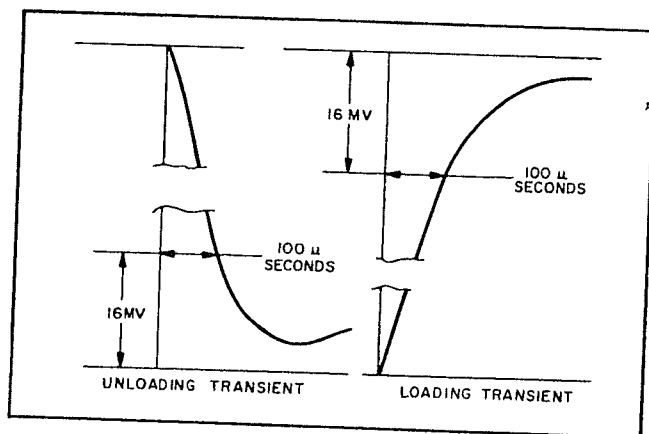

Figure 5-8. Transient Recovery Time Waveforms
j. Starting from the major graticule division representative of time zero, count to the right 100 μ sec and vertically 16mV. Recovery should be within these tolerances as illustrated in Figure 5-8.